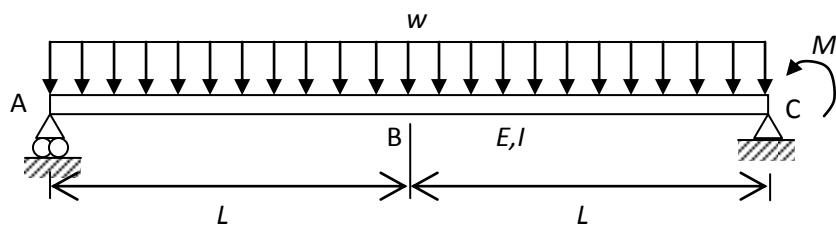

Figure 7
- (b) Figure 7 shows a simply supported beam with constant modulus of elasticity ( $E$ ) and moment of inertia ( $I$ ) subjected to a uniformly distributed load ( $w$ ) along span AC and a moment ( $M$ ) at point C.